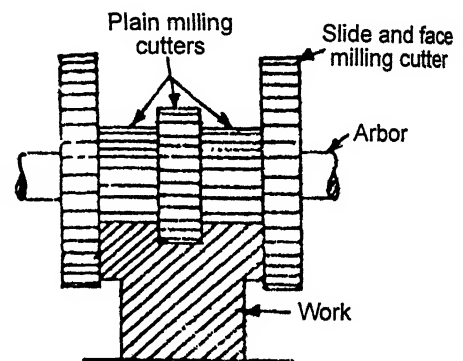

Fig. 10.53. Gang milling.
**6. Gang milling.** Gang milling (Fig. 10.53) is the name given to a milling operation which involves the use of a *combination of more than two cutters*, mounted on a common arbor, for milling a number of flat horizontal and vertical surfaces of a workpiece simultaneously. This method *saves much of machining time* and is widely used in *repetitive work*. The cutting speed of a gang of cutters is calculated from the cutter of the largest diameter.